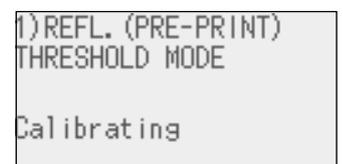

Figure 2. Calibrate Sensor
3. Hold down the pause key until 5-10 labels have fed. The media will continue to be fed until the pause key is released. **Figure 2.**